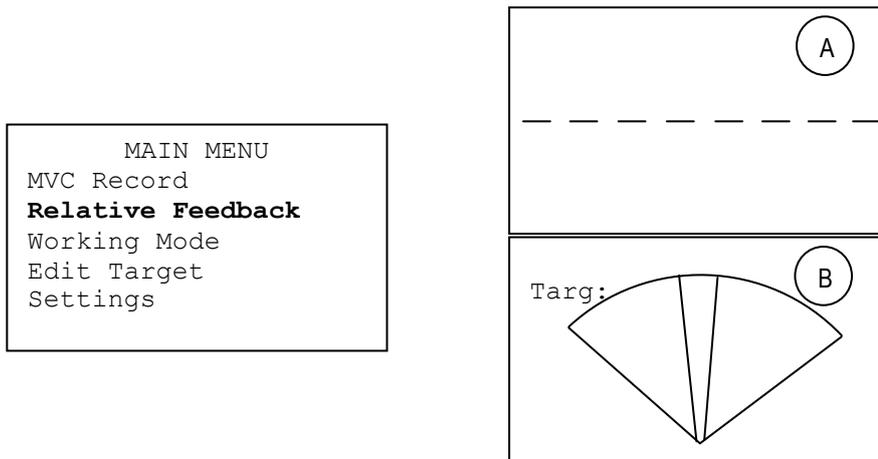

FIG. 8.2: Relative Feedback screenshots: Under Threshold (A), Keep Level (B).
FIG. 8.2 right panel shows the two screenshots relative to Under Threshold (A) and Keep Level (B) feedback modalities.